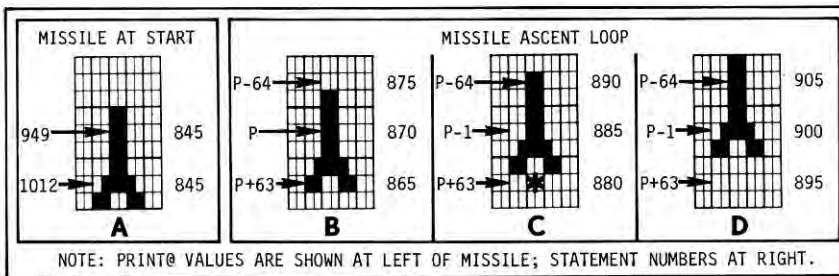

Fig. 4. Program 9 Graphic Shapes
Demo program 9 shows how stacked graphic patterns can be moved vertically. For lack of space, the display has only two remarks and doesn't show the graphic shapes used in the missile ascent loop. Missile-start-loop and ascent-loop shapes are shown in Fig. 4.
PRINT@1012 and PRINT@949 segments of statement 845 (Listing 1) print a two-line-tall missile (Fig. 4, A) on the display screen's bottom edge. Pressing the space bar starts demo-program execution at statement 855. This statement specifies start-to-stop values and a step decrement (-64).
Three three-statement groups (Fig. 4,
B, C, and D) make up an ascent loop that raises the missile. Group A's three statements print the missile's bottom, center, and top sections. Each successive group offsets the missile shape upward one pixel (1/3 of a character line). CHR\$(42) in statement 880 simulates a pulsating rocket engine by flashing an asterisk between the missile's tail fins (Fig. 4, C).
STRING\$(3,128) in statement 895 prints three blanks that erase below the rising missile (Fig. 4, D). Fourteen loops through graphic-printing statements 865-905 raise the missile to the display screen's top edge.